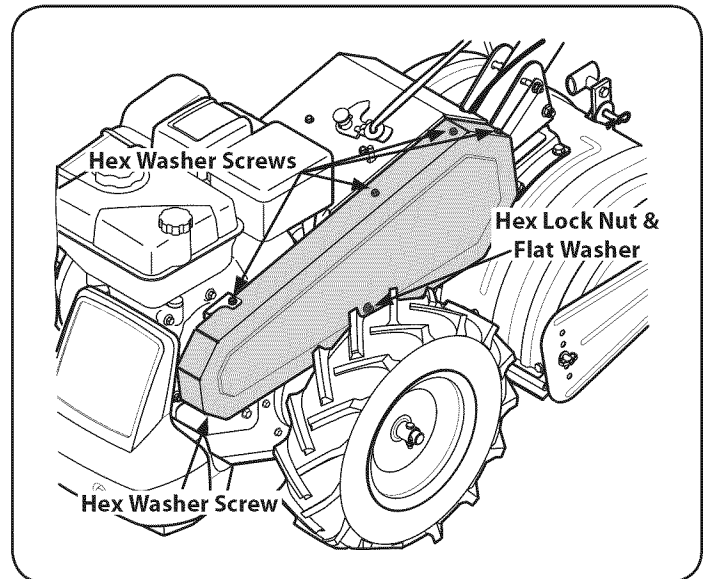

Figure 25
1. Remove the belt cover from the left side of the tiller by removing the five hex washer screws from the top of the belt cover. See Figure 25.
2. Remove the hex lock nut and flat washer from the front side of the belt cover. See Figure 25.